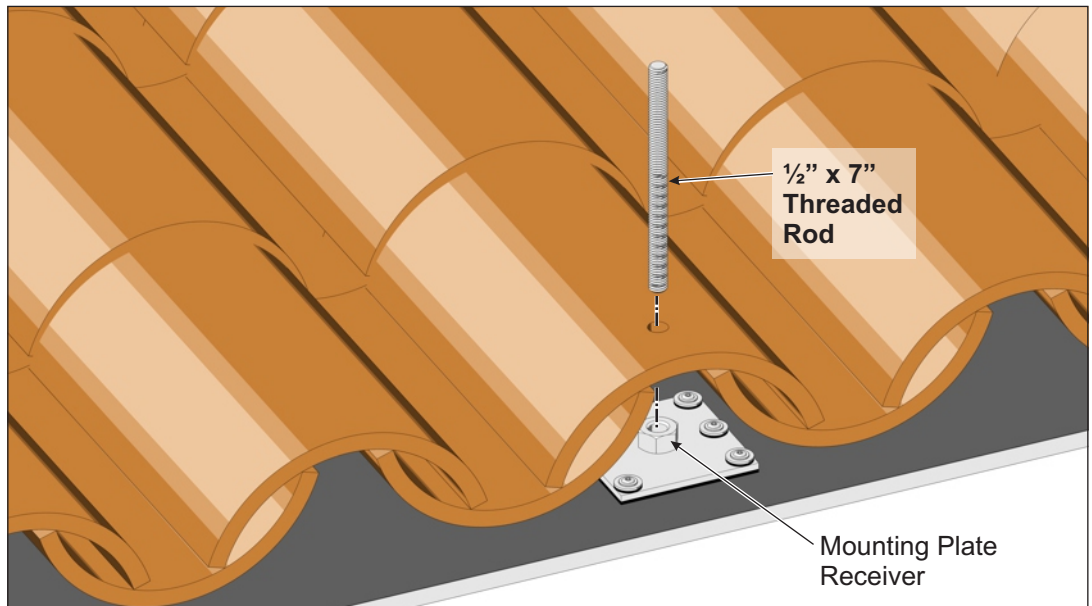

Figure 5: Inserting the Threaded Rod into Mounting Plate
- G. Replace tile and pass Threaded Rod thru hole in tile, threading it into Mounting Plate receiver. It may be helpful to temporarily thread the two ½” flange nuts onto the Rod and lock them together so a wrench can be used to drive the Rod into place. (See Figure 5)